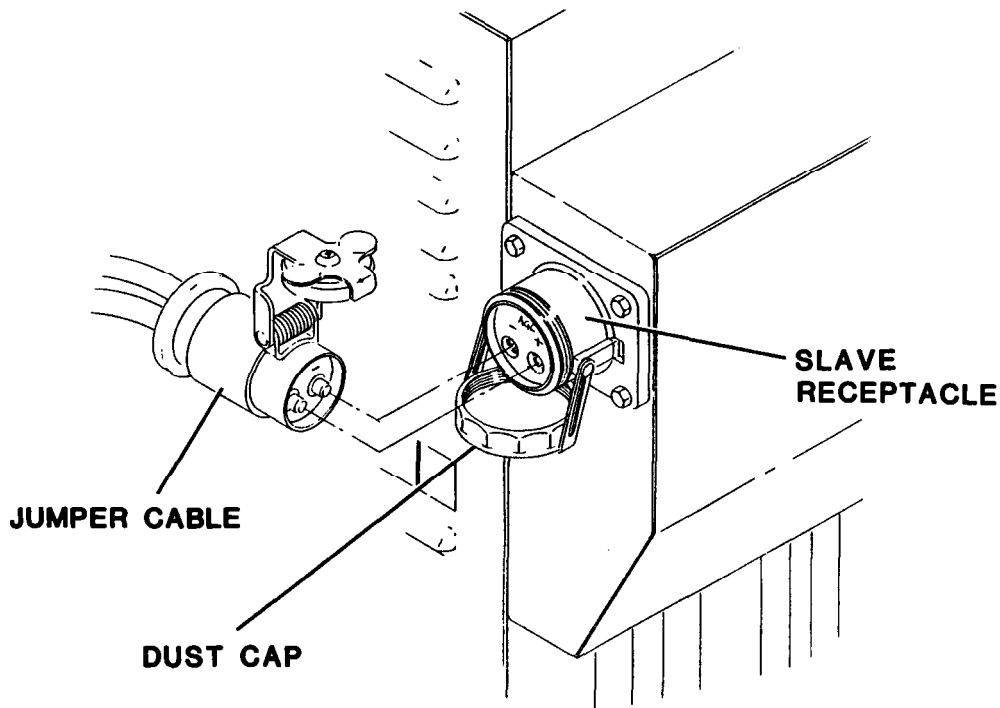

Figure 2-5. Slave Start Connection
(1) Remove dust cap (figure 2-5) from slave receptacle.